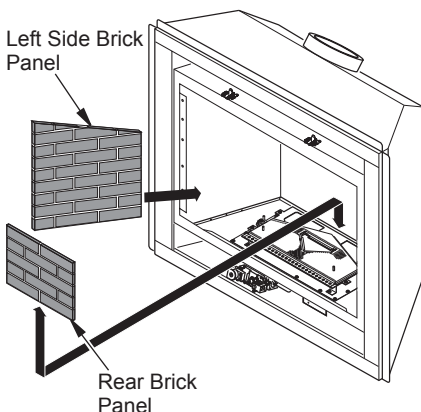

Figure 39 - Installing Rear Brick Panel
8. Install rear brick panel first. Rest bottom edge of panel on back edge of burner assembly (see Figure 39).
9. Install left side brick panel by sliding it between burner assembly and side of firebox (see Figure 39).